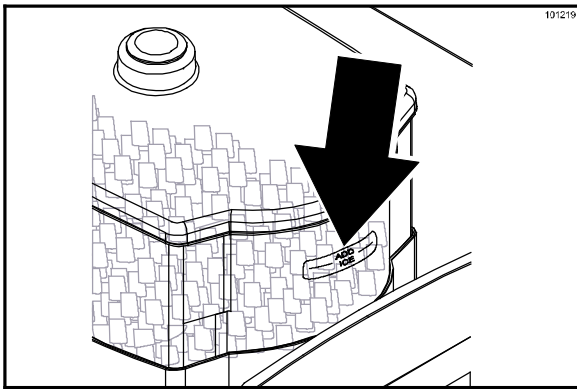

Figure 127
- Make sure the ice level is above the ADD ICE line on the hopper. Add ice, if needed. (See Figure 127.)